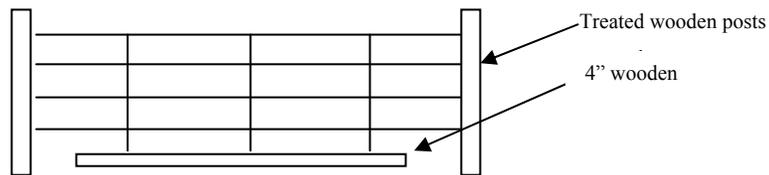

Figure 1.0 Carter Creek Crossing
- ❖ Fence #001076 Extension: This fence was extended across Carter Creek and parallel to the Carter Creek Bridge in 2010 by Scott. Inspections showed: 1) the fence was effective in limiting drift from Elk Park to the Lost Springs unit, and 2) the fence was built as directed with the exception that a 4" pole spanning the distance of the creek was not attached approximately 12-18" from the lowest wire (just touching and partially held up by the creek) and supported by at least 3-5 vertical wires (see figure 1.0). Scott will need to modify this fence to allow for this design adjustment prior to livestock entering the Elk Park unit. Scott will continue to be responsible for the maintenance of this fence including annually setting up the fence just prior to livestock entering the Elk Park unit and taking down the fence just after livestock have been removed from the unit. Scott's Slauch's term grazing permit will be modified to show this added maintenance responsibility at a later date.